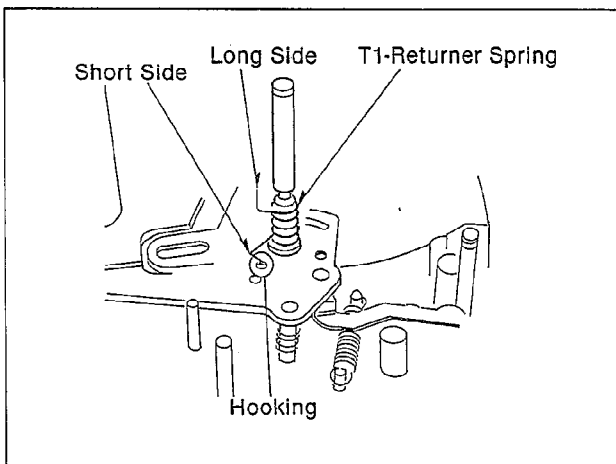

Fig. M22
- (4) Insert the T1-returner Spring so that insert a hooked end(short side) in the hole of the Pinch Arm Base as shown in Fig.M22.